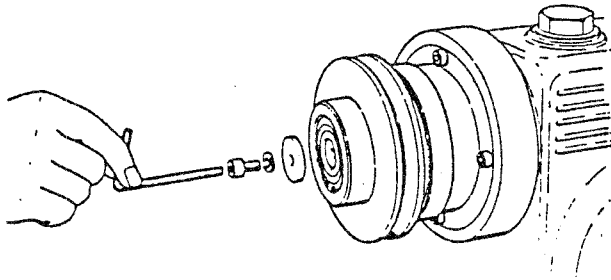

Fig. 5
- (2) Loosen bolt (25) with the hexagonal hole, and detach shaft holding plate (6) (Fig. 5).